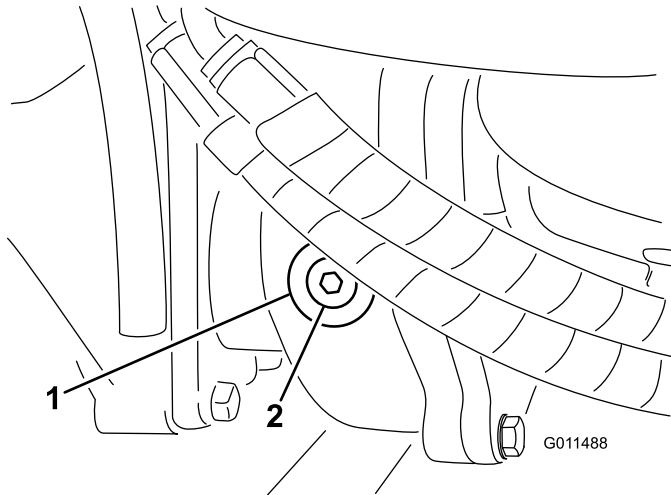

Figure 62
2. Remove the check/fill plug from the left side of the gearbox and ensure that lubricant is up to the bottom of the hole (Figure 62).